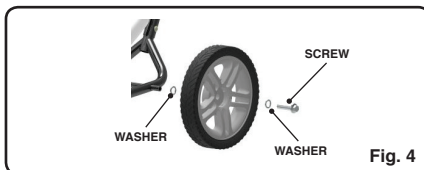

Fig. 4
1. Install the wheels to the frame using the provided hex screws and washers. Install one washer on the inside and one washer on the outside of each wheel. Tighten to 9-13 ft. lbs. (12-18 Nm) torque using a 12 mm wrench. (Fig. 4)